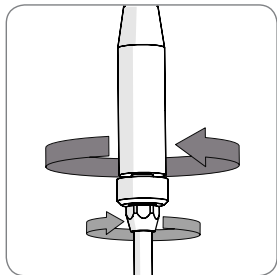

Fig 2
- Tighten fully the large hand nut to pull the two parts of the lance together. (Fig. 2)